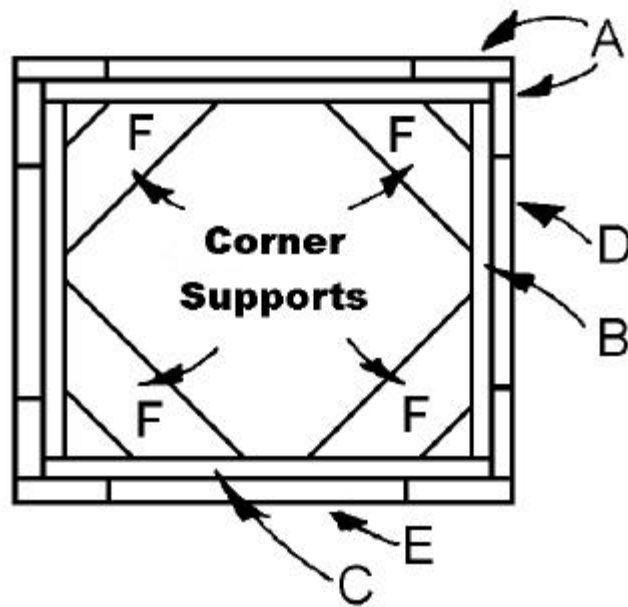

Figure 6
10. Referring to *Figure 6*, attach the mitered corner supports (F), making sure that they are flush with the top edges of the assembled frame. Screw through the edges of the corner supports (F) at an angle (toenail) into the front, back, and side connectors (B and C).